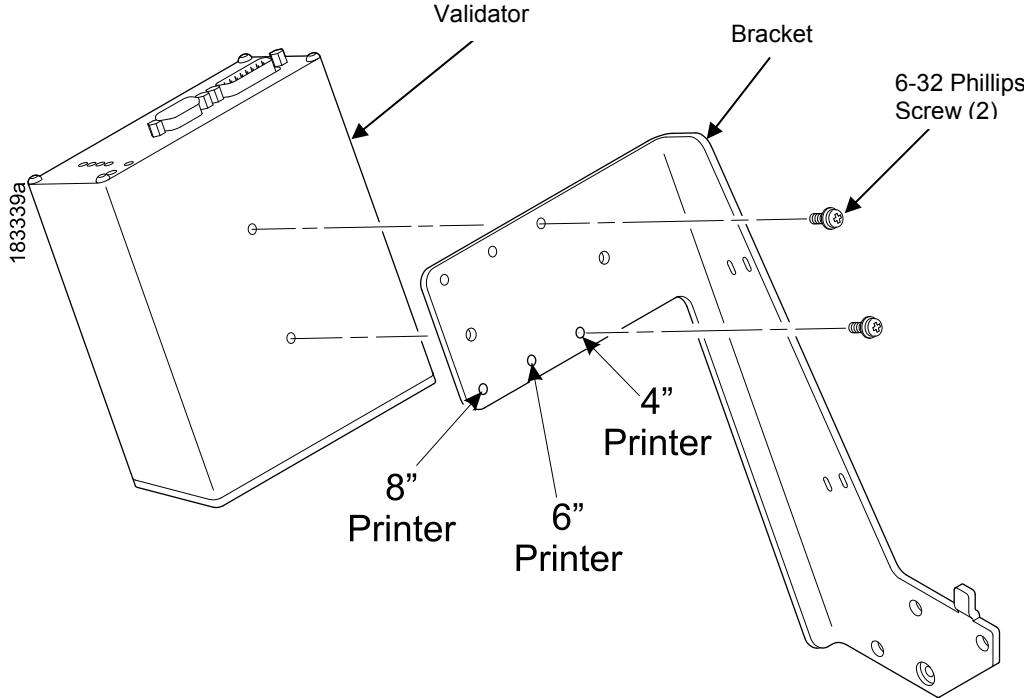

Figure 18 Attaching the Validator to the Bracket (T8)
1. Using two 6-32 Phillips head screws, attach the validator to the bracket as shown in Figure 18.